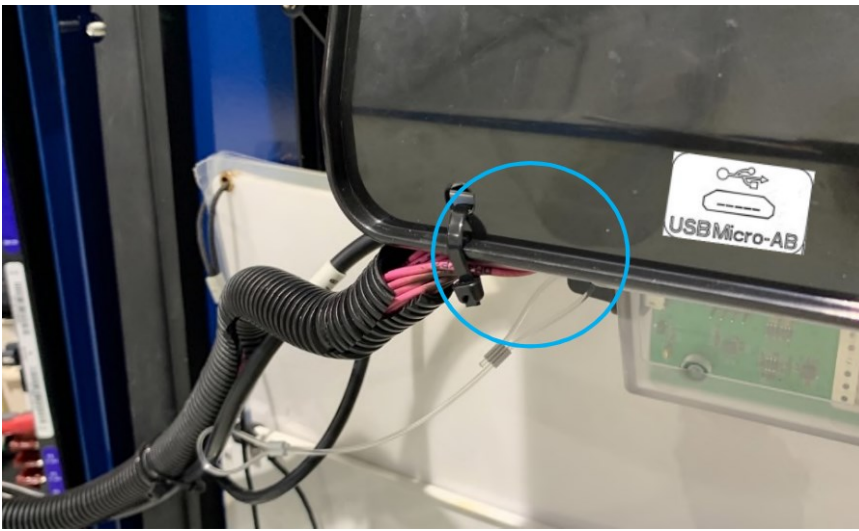

Figure 7c: Routing wire harness and label location
21. Secure the wire harnesses to the rain shield via the hole as shown below in figure 7c. If there is no hole, drill a hole with a 1/4" or 6mm drill bit.
22. Clean the rain shield with an appropriate cleaner and add the USB label (item 5) to the rain shield to the right of the harness mounting hole. Location shown in figure 7c.